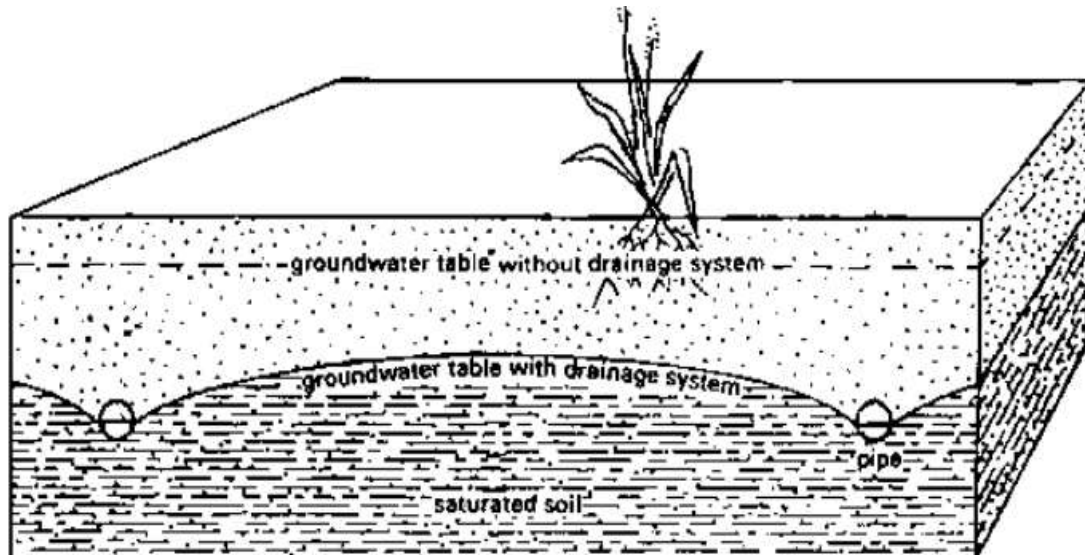

Fig 1.1: Control of the groundwater table by means of buried pipes
- **Drainage structures:** includes manholes, catch basins, leaching basins, inlets and drop inlets. Drain pipes are made of clay, concrete or plastic. They are usually placed in trenches by machines. In clay and concrete pipes (usually 30 cm long and 5 - 10 cm in diameter) drainage water enters the pipes through the joints (see Fig 1.1 below). Flexible plastic drains are much longer (up to 200 m) and the water enters through perforations distributed over the entire length of the pipe